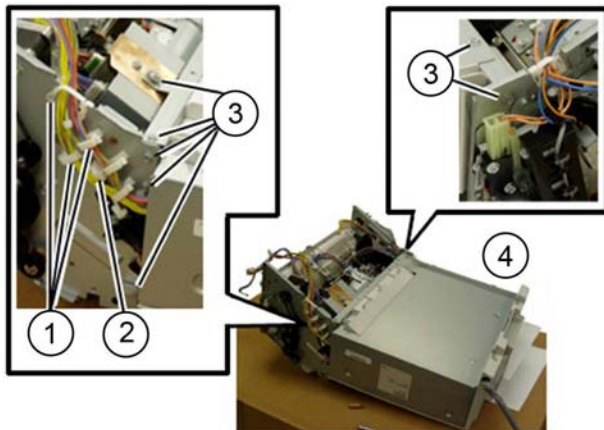

Figure 4 Stacker tray removal
10. Remove the stacker tray, **Figure 4**:
- Release the harness from the five clamps (1).
- Disconnect the connector (2).
- Remove seven screws (3).
- Remove the stacker tray (4).